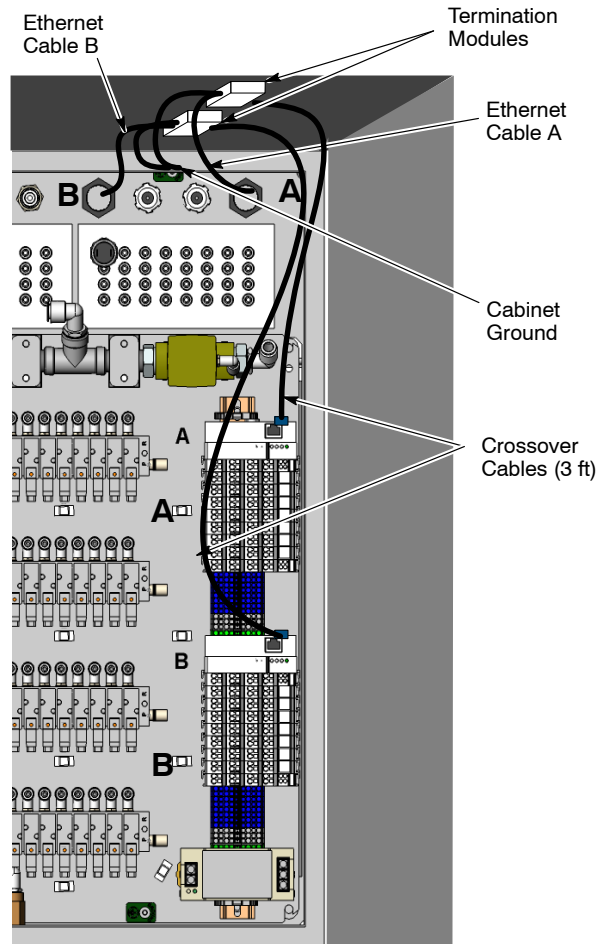

Figure 3-12 Ethernet Cable Termination Inside Color Control Panel
11. See Figure 3-12. Install the termination modules under the top side of the enclosure.